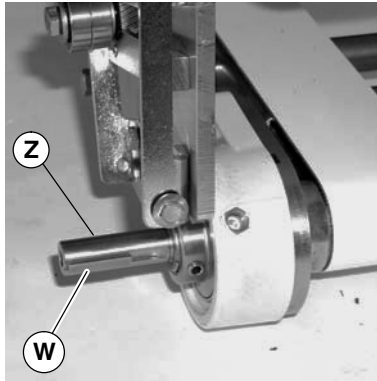

Figure 7
1. Install key (W of Figure 7) into conveyor input shaft (Z).